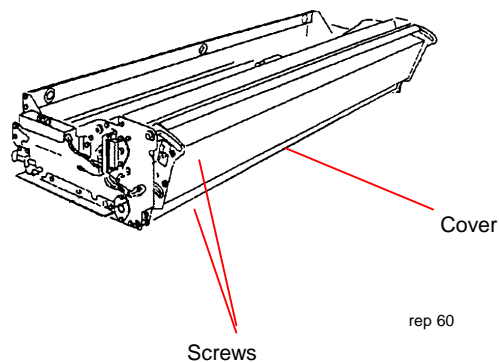

Figure 1. Removing the Cover
2. (Figure 1): Remove the two screws from each side and remove the Cover.